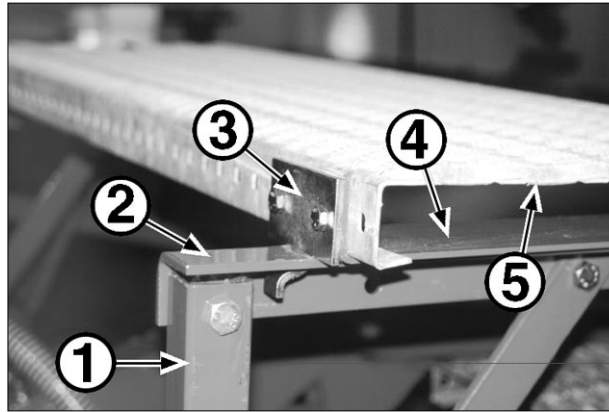

Fig. 24-9
1. Choose two free areas on the coulter bar for mounting the platform support brackets (1, fig. 24-9). The support brackets should be spaced as far apart as possible.
3. Now fit the hinge plates (3) and the footplate end sections (4) to the safety grating (5) using the nuts and bolts supplied (M 8x25). The distance between the left-hand and right-hand hinge plates and the end sections must correspond exactly to the distance between the platform support brackets.